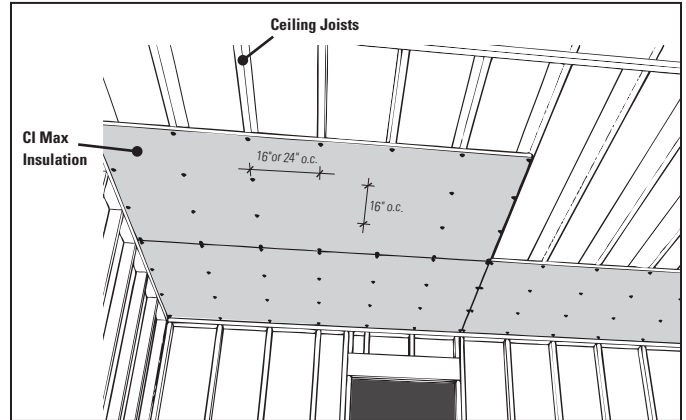

Figure 5. CI Max insulation installed over framed ceiling
3. Use maximum board lengths to minimize number of joints. Locate joints square to framing and center end joints over framing. Provide additional framing as necessary. It is not necessary to stagger board joints. See Figure 5.